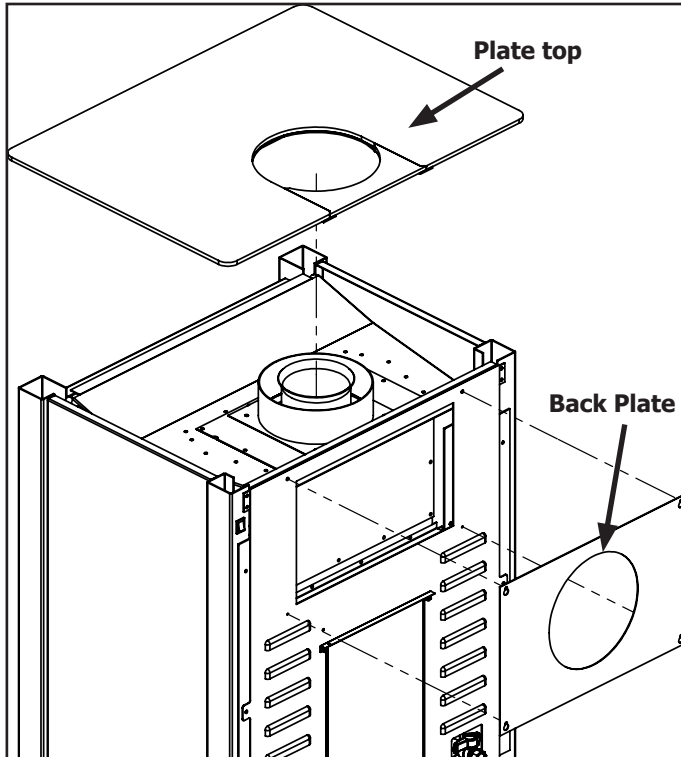
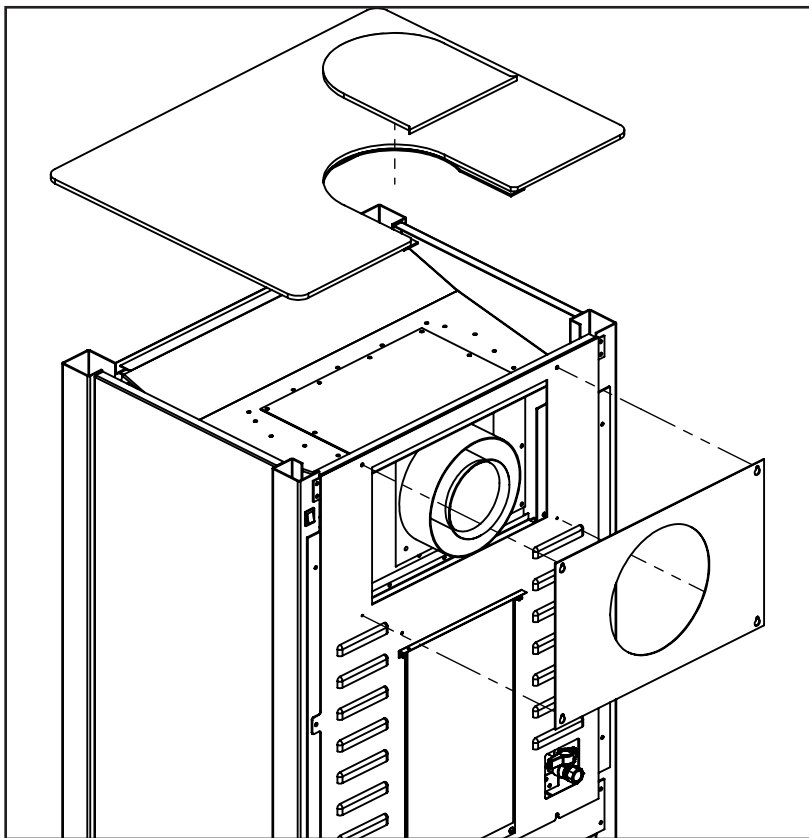

Figure 23. Vent Conversion - Step 1
Figure 26. Vent Conversion - Step 4
Step 1: Using a T20 screwdriver loosen the four screws retaining the back plate and unhook it. Then remove the plate top by simply lifting up as shown in Figure 23.
Step 4: Re-install the plate top by aligning the bolt heads on the bottom side with the rear mounts (see Figure 23). Re-install the back plate and tighten the four retaining screws. Finally, install the plate vent cover supplied with the S20I/ S20ID as shown in Figure 26.